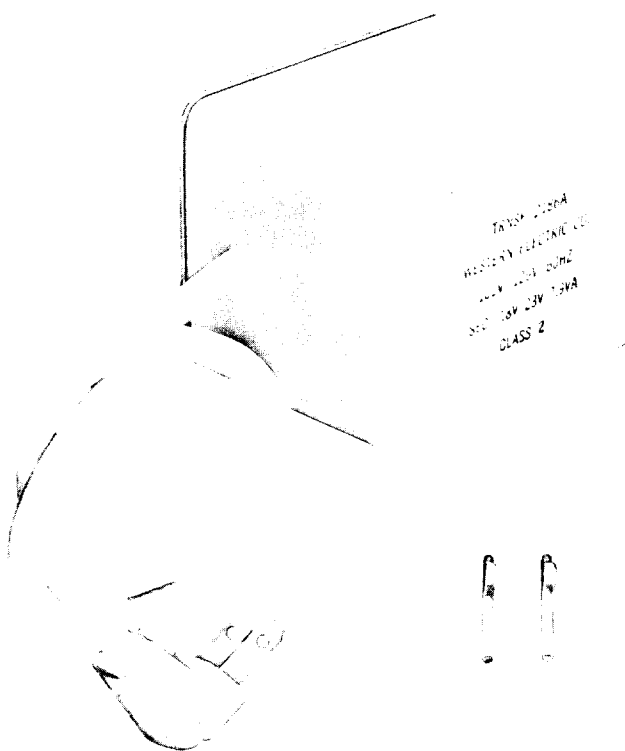

Fig. 16—2186A (MD) Transformer
9.02 These transformers (Fig. 16 and 17) supply power for the 700A and 700B subscriber sets.